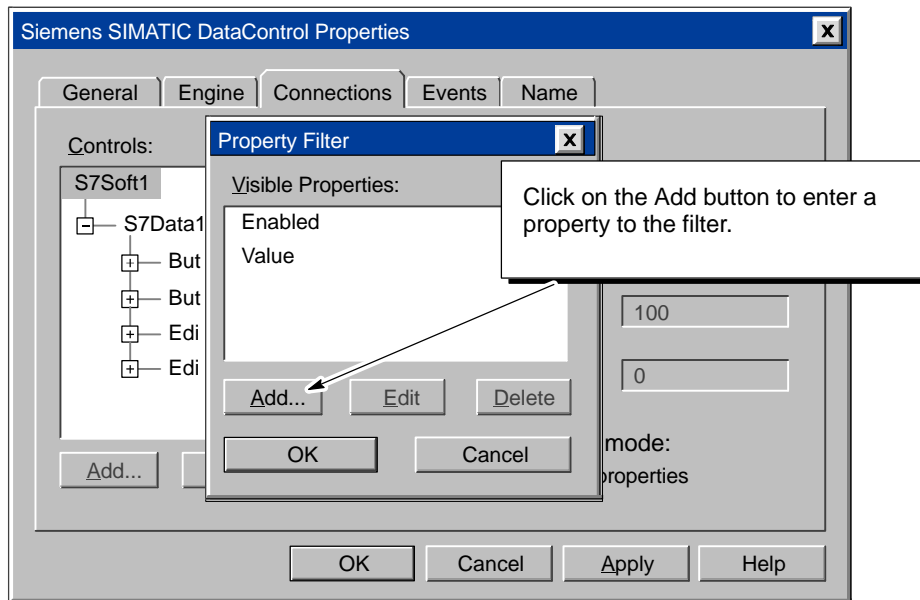

Figure 4-7 Entering a Property to the Filter
3. As shown in Figure 4-7, enter the properties to display and click on the Add button. Use the Edit button to correct entries and the Delete button to remove entries.